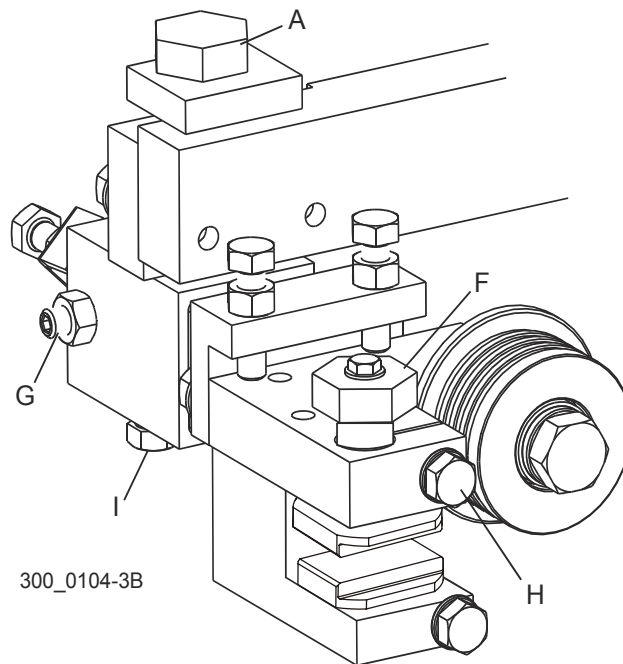

FIG. 3-24
See Figure 3-24. Standard Roller/Block Guides: Loosen clamp bolt (H) and turn the top guide block bolt (F) counterclockwise to raise the top guide block off the blade. Turn blade guide assembly bolt (A) counterclockwise to move the bottom guide block down off the blade. Check that the blade guide roller does not touch the blade. Loosen screws (G) and (I) and move the guide assembly back away from blade.